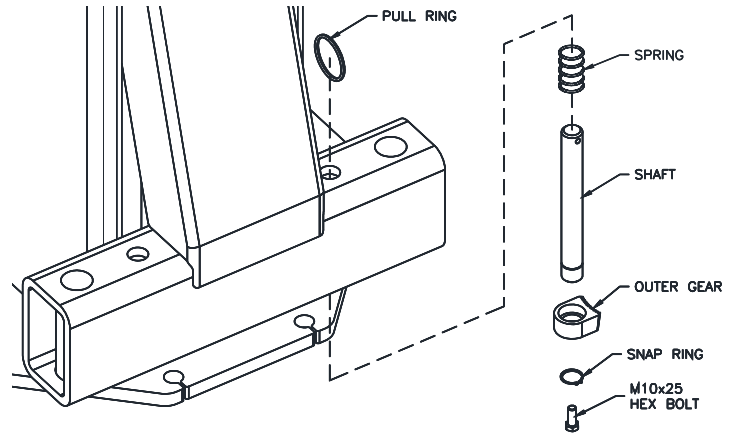

Fig. 17-Arm Restraint
- 39) Arm restraint assemblies should be installed on carriage as shown in **Fig. 17**.